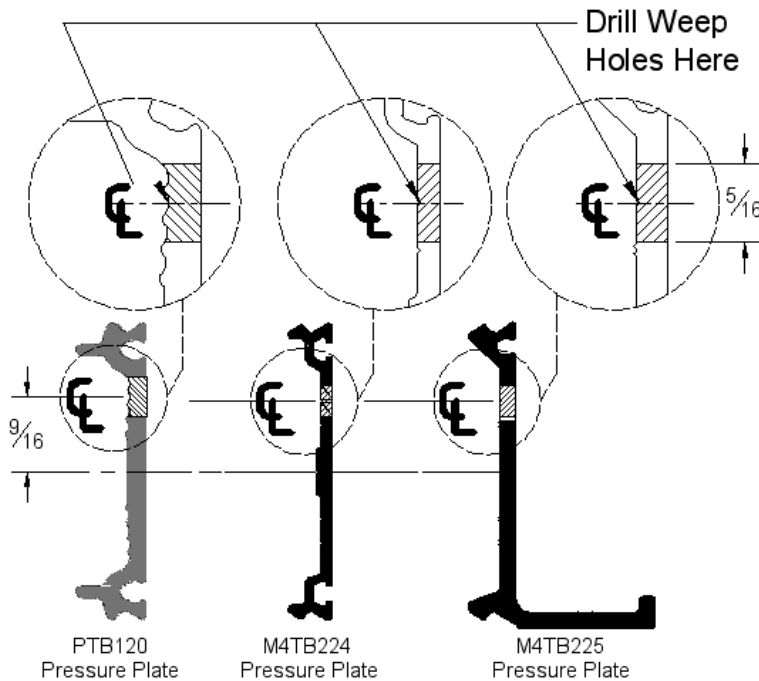
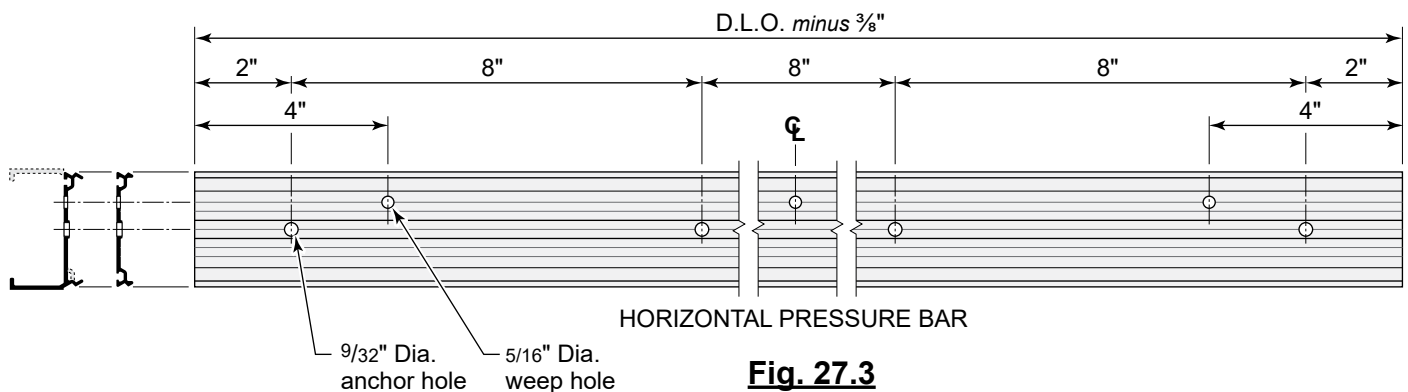

Fig. 27.4
Fig. 27.3
- Drill three 5/16" diameter weep holes per horizontal pressure plate, one at the midpoint and one 4" from each end as shown on Fig 27.3. When using M4TB224, M4TB225, and PTB120 locate the holes as shown on Fig. 27.4.